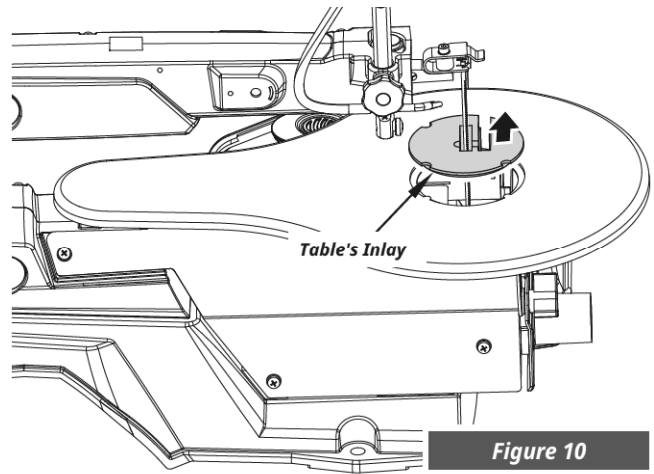

Figure 10
2. Remove the Table Inlay. (See Figure 10)